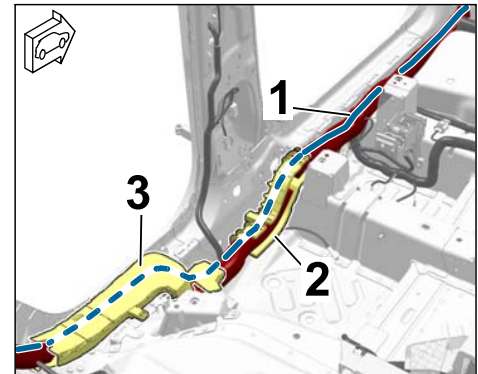

Figure 15
3.2.2 Door sill area, left (⇒ *Figure 15*)